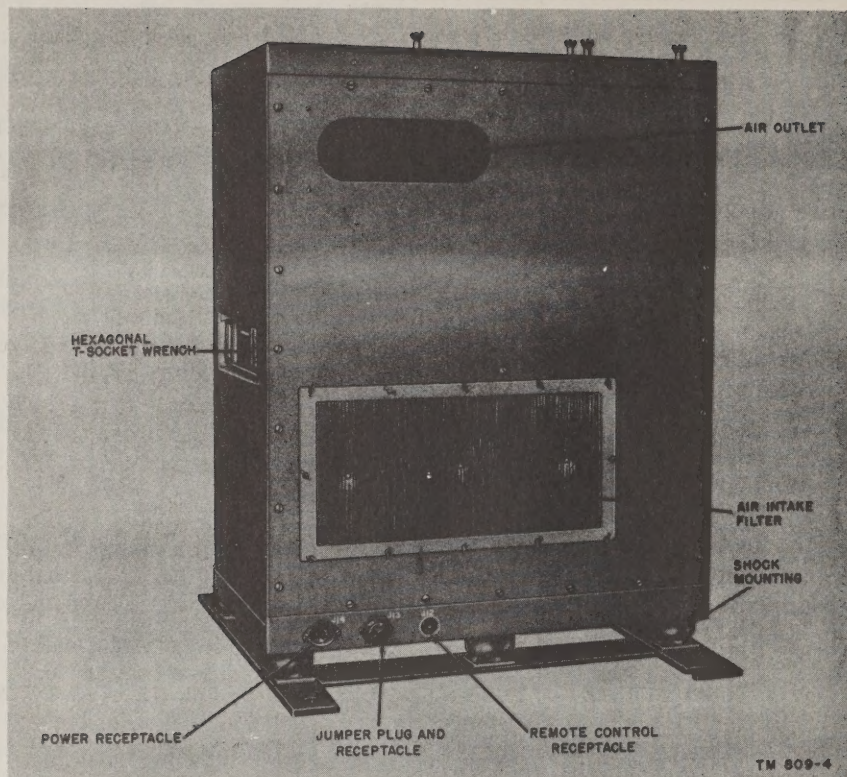
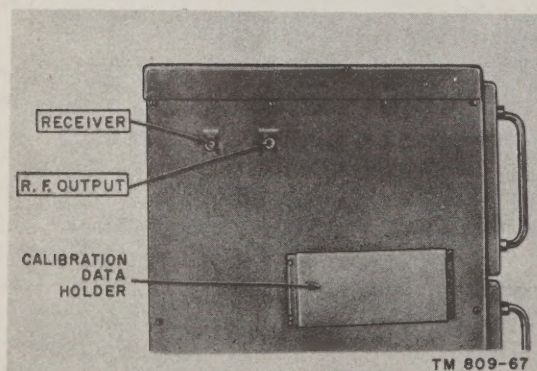

Figure 4. Transmitter, rear view.
Figure 5. Transmitter housing, left side.
e. The cabinet contains all the interlock switches of the equipment. Three receptacles are located on the rear of the cabinet (fig. 4). The power receptacle permits the application of ac power, the second receptacle seats the jumper plug to permit high-voltage operation, and the third provides means for remote control operation. Two coaxial receptacles (fig. 5) on the left side of the cabinet connect the transmitting antenna to the transmitter and to a receiver (when used) through an antenna change-over relay. A blower, located on the back panel, improves the ventilation of the equipment; air filters (fig. 4) clean the incoming air. A holder (fig. 5), mounted on the left side, stores the calibration charts used with the transmitter. In Radio Transmitters T-368A/URT and T-368C/URT, the holder is mounted on the right side of the cabinet. Carrying handles for the transmitter (one on each side) when not in use, can be folded into the sides of the housing. A hexagonal T-socket wrench (fig. 4), used for loosening and tightening the panel captive bolts, is mounted in the recess for the right side handle. At the top of the cabinet are two sets of four threaded studs with wing nuts for mounting a switching unit (in Radio Set AN/GLQ-2) or Radio Modulator MD-239/GR (in Radio Set AN/GRD-26D) and an antenna tuning unit (fig. 1). A THERMAL RESET button (fig. 6) on the top of the upper front section of the cabinet permits manual resetting of the thermostat, which is mounted on the inside top of the cabinet. Radio Transmitters T-368/URT and T-368B/URT have six
shock mounts (fig. 4) which attach to a flat rectangular plate. On the other transmitters eight shock mounts attach to a U-channel rectangular base; the base is secured to the mounting surface by four bolts (not supplied). The rear aprons of the deck chassis can be reached by loosening the Dzus screws that hold the back panel to the cabinet.
a. *Power Input.* Power Cord CD-763 should be connected between the power receptacle (fig. 4) and the ac line.
(1) The connection from a doublet antenna (if used) to the R. F. OUTPUT receptacle (fig. 5).
(2) When the antenna tuning unit is used, check:
(a) Coaxial cable between the R. F. OUTPUT receptacle (fig. 5) and the input terminals on the side of the tuning unit.
c. *Associated Receiver.* In an installation where an associated receiver uses the same antenna, check the connection at the RECEIVER receptacle (fig. 5).
(1) In lettered models used with Radio Modulator MD-239/GR, check the two cables from the EXT EXC and FSK connectors of the transmitter to the MO IN and FSK OUT connectors of the modulator.
(2) When Radio Modulator MD-239/GR is not used, check the connection of the frequency-shift exciter cable to the FSK receptacle.
h. *FSK-AM Transmission.* Make the checks given in e and g(1) or (2) above.